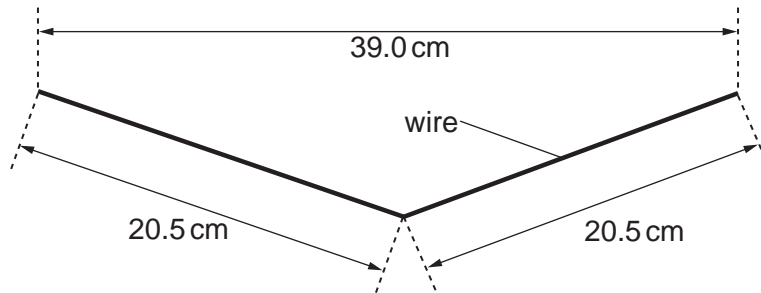

Fig. 1.1
- 1 Bend the wire at its centre to the shape shown in Fig. 1.1. Each wire arm should be as straight as possible.